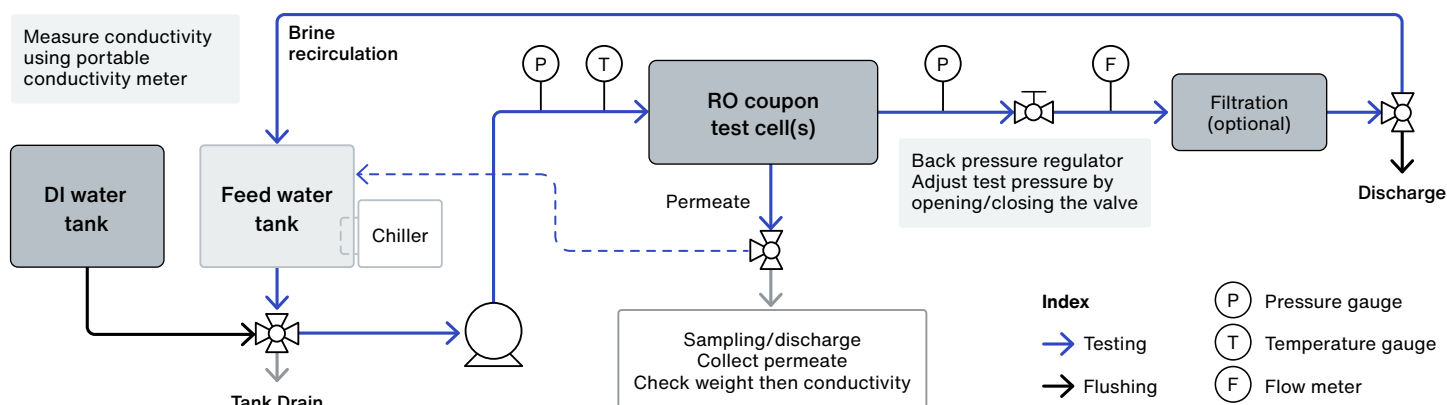

Figure 1. Cross-flow coupon test station flow diagram
- Cross-flow coupon test station (see Figure 1)